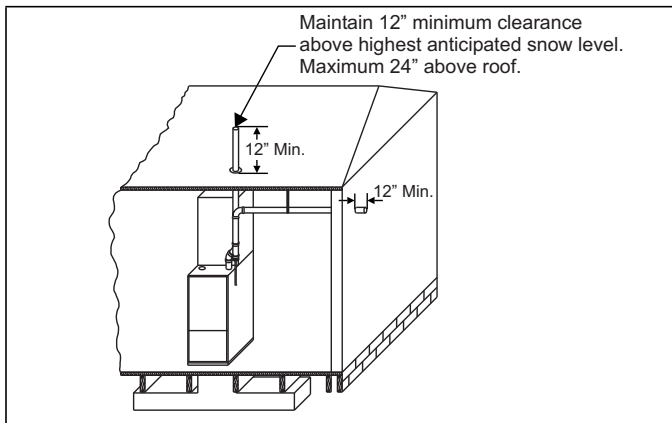
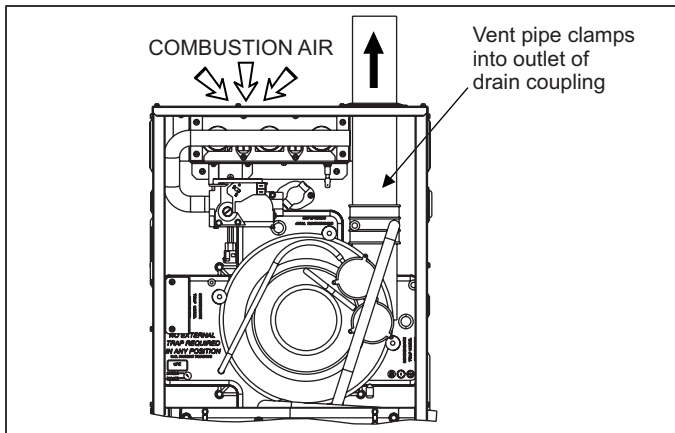

FIGURE 27: Termination Configuration - 1 Pipe
FIGURE 34: Combustion Airflow Path Through The Furnace Casing
The combustion air side of the single pipe configuration shown in Figures 27 and 34 is referred to in these instructions as ambient combustion air supply. Follow the instructions for ambient combustion air installations, paying particular attention to the section on air source from inside the building. The vent for a single pipe system must be installed as specified in the venting section of these instructions with both vents terminating as shown in Figure 27. Each furnace must have a separate vent pipe. Under NO circumstances can the two vent pipes be tied together.
2. **AMBIENT COMBUSTION AIR:** Combustion air is supplied from the area surrounding the furnace through openings in the furnace casing. The combustion air and the vent pipes are not terminated in the same atmospheric zone. Refer to Figure 27 for vent terminations. Refer to "Ambient Combustion Air Supply" for proper installation. Refer to Figures 34 and 35.